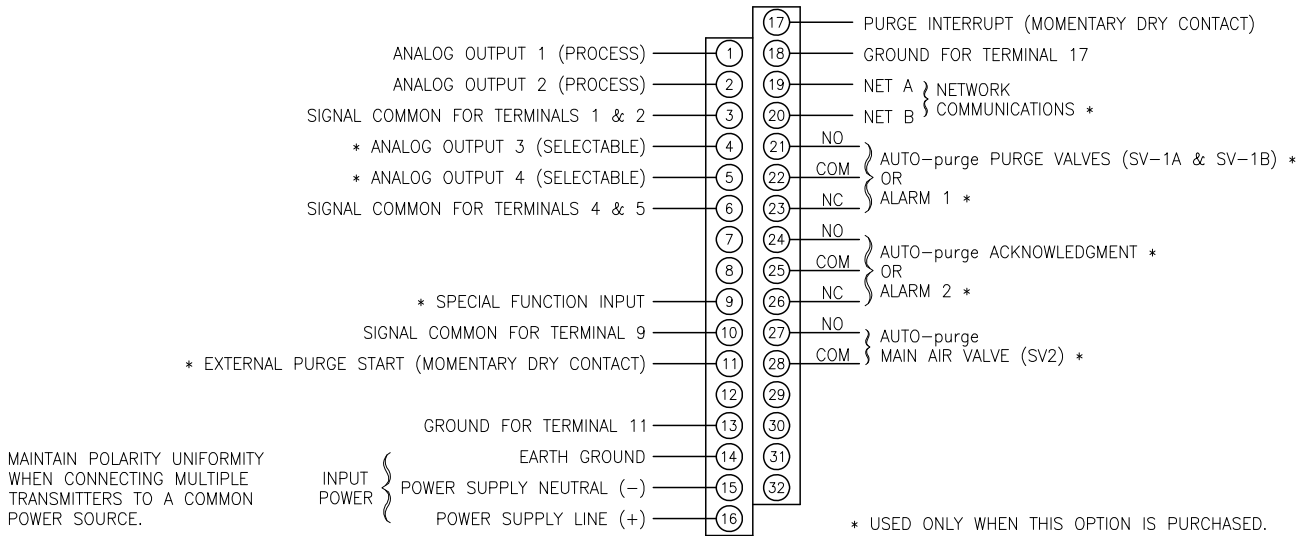

Figure 4.3
All power and signal wiring is done at the terminal strip at the left side of the VELTRON II. Figure 4.3 below represents the terminal strip and the connections for power input and the various inputs/outputs available (review Factory Set-Up Information Sheet provided with the unit for which inputs/outputs are included with your unit).
- Customer to connect according to desired alarm logic. Figure 4.3 indicates de-energized (alarm off) state.
- For Alarm Option. Customer to connect according to desired alarm logic. Figure 4.3 indicates de-energized (alarm off) state.